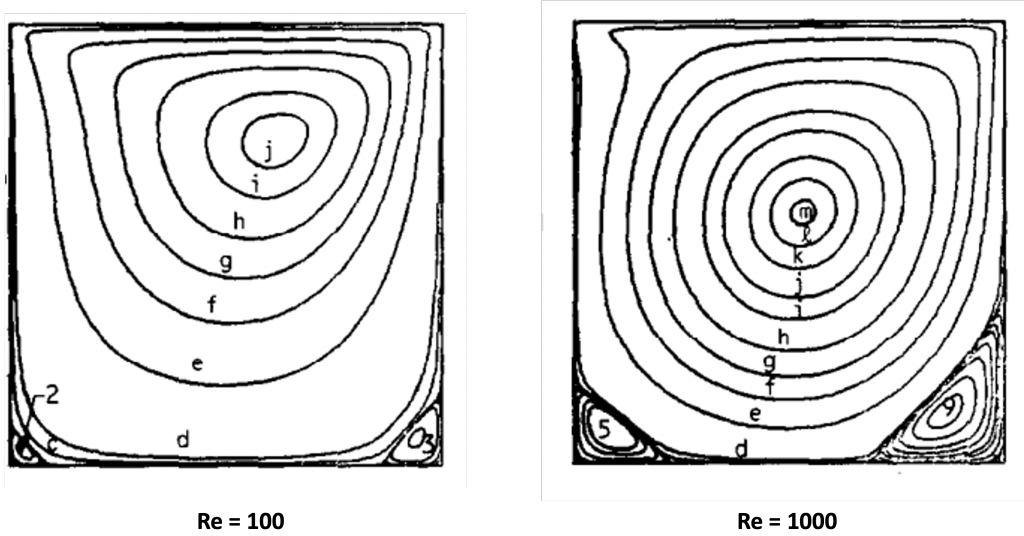

Figure 2: Cavity flow patterns for different  $Re$  values.
- Compute the cavity flows for Reynolds numbers 100 and 1000. Compare the results with Fig. 2 [1].